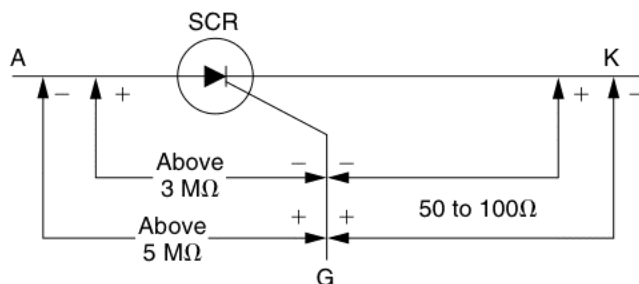

FIGURE 1-26 Check the suspected SCR with resistance tests or upon an SCR tester.
The SCR found in low-voltage power supply and high-voltage rectifier circuits can be checked with resistance measurements (Fig. 1-26). A low-resistance measurement between the gate (G) and cathode (K) is normal. Replace the SCR if the measurement is below 50 ohms. If any resistance measurement is found between the anode (A) and cathode (K) terminals, replace the leaky SCR. Like the transistor, the SCR can break down or become intermittent under load and should be replaced if you suspect that it is faulty.